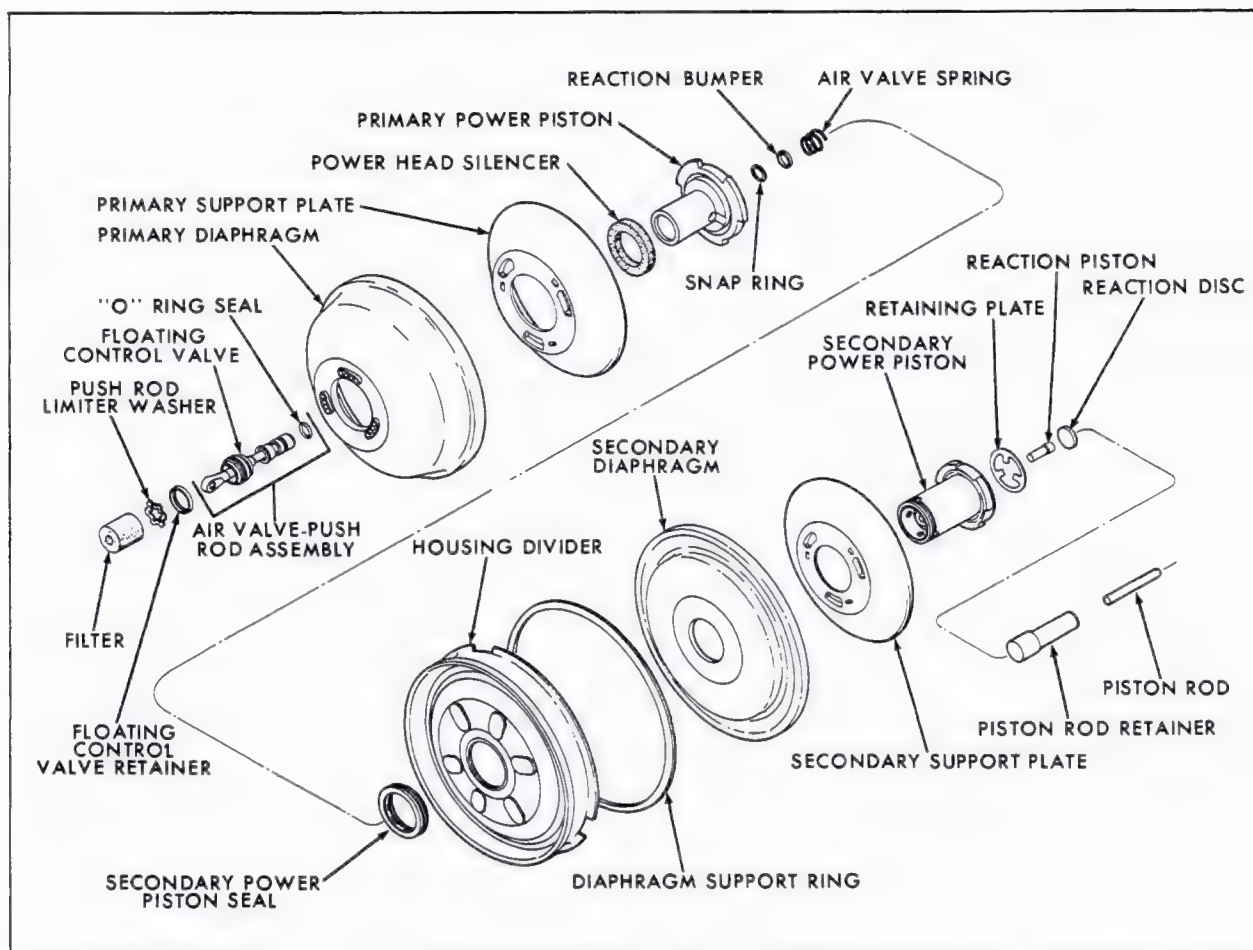

Fig. 5-36 Tandem Diaphragm Power Piston Disassembled
9. Lift the bead on the outside diameter of the secondary diaphragm and remove the diaphragm support ring, Fig. 5-36.
20. Remove the air filter and push rod limiter washer from the tubular section of the primary power piston, Fig. 5-36.
1. Lubricate the I.D. and O.D. of the "O" ring seal, Fig. 5-36, with silicone lubricant and place on the air valve.
6. After the floating control valve is seated, place the push rod limiter washer over the push rod and position on the floating control valve, Fig. 5-36.
7. The filter element can now be stretched over the push rod eye and pressed into the primary power piston tube, Fig. 5-36.
19. Assemble the primary diaphragm to the primary support plate from the side of the support plate opposite the locking tangs, Fig. 5-36. Press the raised flange on the I.D. of the diaphragm through the center hole of the support plate. Be sure that the edge of the support plate center hole fits into the groove in the raised flange of the diaphragm. Lubricate the diaphragm I.D. and the raised surface of the flange (that fits into a groove in the primary power piston) with a light coat of silicone lubricant.
27. Assemble the secondary diaphragm to the secondary support plate from the side of the support plate opposite the locking tangs, Fig. 5-36. Press the raised flange on the I.D. of the diaphragm through the center hole of the support plate. Be sure that the edge of the support plate center hole fits into the groove in the raised flange of the diaphragm. Apply a thin coat of silicone lubricant to the I.D. of the secondary diaphragm and the raised surface of the flange (that fits into a groove in the secondary power piston).